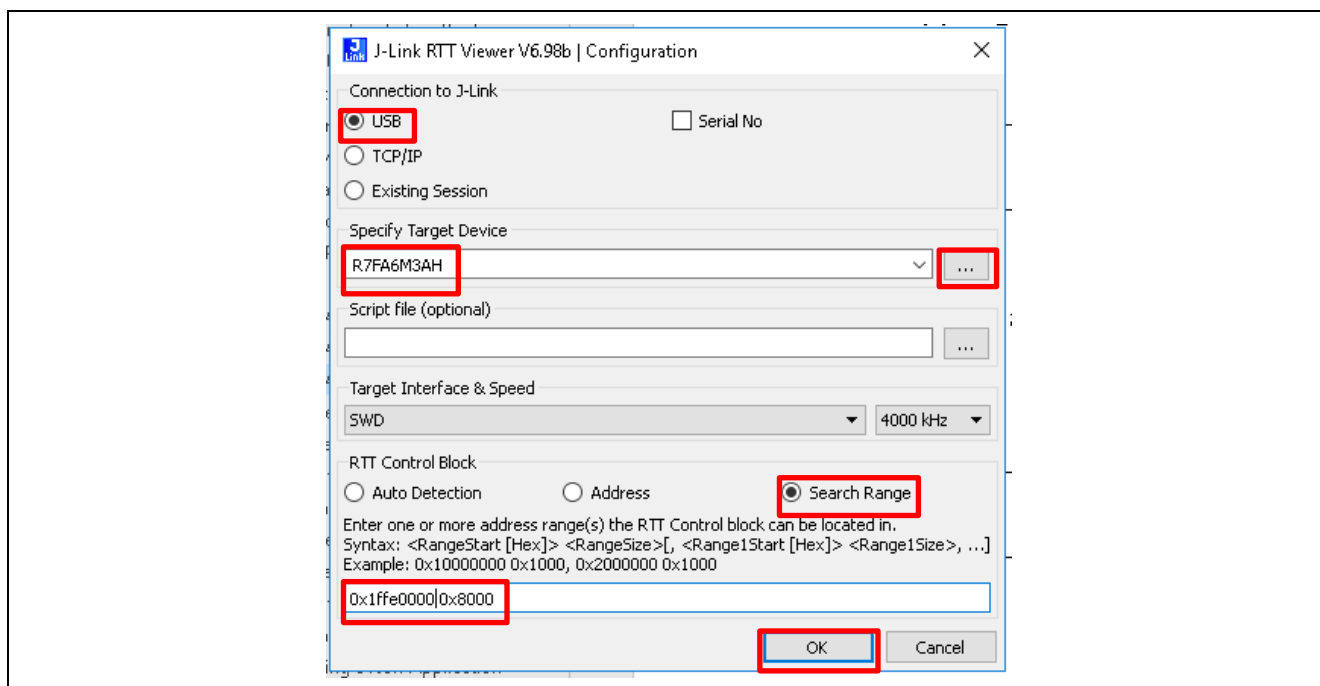

Figure 37. Configure the RTT Viewer for RA6M3 Project
4. Confirm the same configuration as shown in Figure 37, then click **OK**. The following output is printed and only the blue LED blinks.
Configure the RTT Viewer as shown in Figure 37. Observe the following output on the RTT Viewer. This output shows the Primary application is being executed and all three LEDs are blinking.
4. Confirm the same configuration as shown in Figure 37, then click **OK**. The following output is printed and only the blue LED should blink.